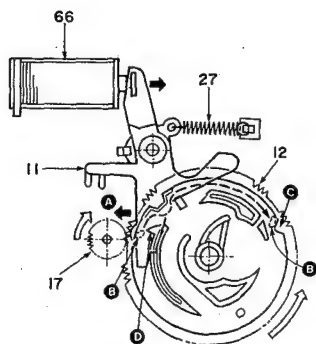
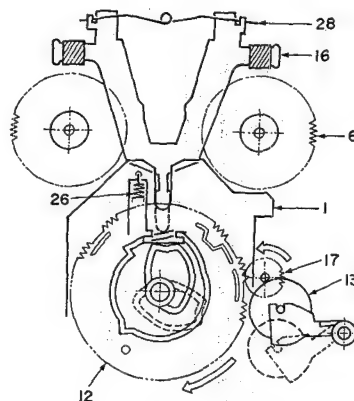

Fig. 6 (Rear side view)
Fig. 7 (Front side view)
2. PLAY/REC to STOP Operation (See Fig. 6, Fig. 7)
- 2-2. By a signal from the microprocessor, the SOLENOID (66) turns OFF.
- 2-3. The PLAY ARM (11) is swung in the direction of the arrow **A** by the SPRING (27), and the pin **B** is released from the stopper **D**.
- 2-4. The CAM GEAR is slightly rotated by the HEAD BASE (1) in the direction of the arrow **C**.